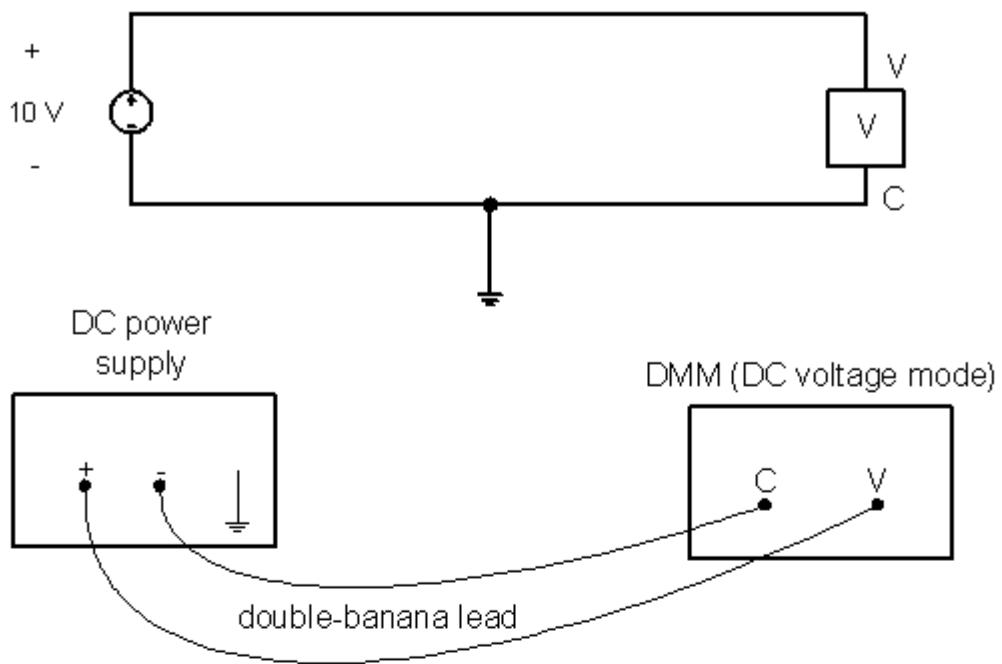

Figure 1.1
Step 2: Select an appropriate range (7) for reading voltages of about 10V.
Step 4: Push the power button or switch (1). If you are using the GPS-3303 make sure both tracking mode switches (14) are “out”, i.e. disengaged.
Step 5: Connect the free plug of the two-wire lead that you connected to the DMM to the output of the DC power supply according to Figure 1.1 on the next page and as shown below. For the HP Model 6218A the output voltage appears between the (+) and (-) terminals (8) for the GPS-3303 between the (+) and (-) terminals of (10) or (11) depending on if CH1 or CH2 is used. If you are using the GPS-3303 push in the output button (15) – the output indicator light should be on.